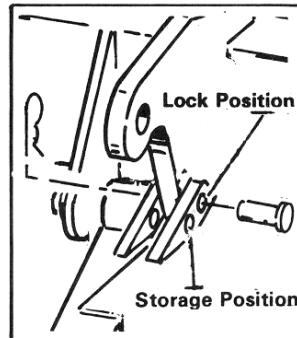

Fig. 30 Transport Locking Pins
3. **IMPORTANT: Remove the transport locking pins if they are in the lock position (See Fig. 30). Store pins in the storage holes provided.**
2. Insure that Transport Lock Pins are installed (See Fig. 30).